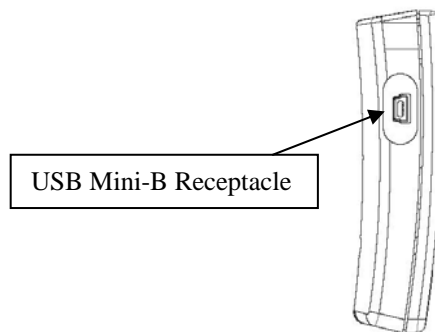

Figure 3: Detail of USB Receptacle on IR to USB Adapter
When the IR to USB Adapter is connected to a computer via the USB Mini-B receptacle shown in Figure 3, the IR to USB Adapter will automatically power on.
1. If not already connected, connect the USB programming cable to the computer and connect the USB Mini-B plug to the USB Mini-B receptacle on the side of the IR to USB Adapter. See Figure 3 in Section 4.1.1 for receptacle location details.